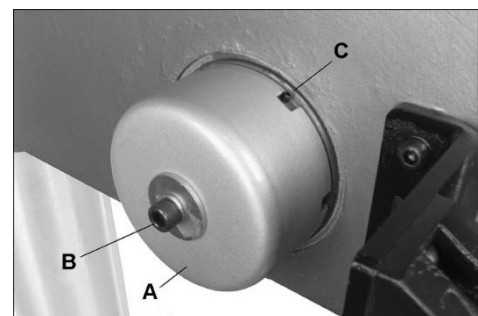

Figure 7-3
1. Grasp spring cover (A, Figure 7-3) firmly with one hand. Loosen screw (B) just enough to rotate spring cover past pin (C) and settle it on the next notch. *DO NOT remove spring cap or allow it to rotate freely in your hand, or spring may unwind.*
3. Re-tighten screw (B).